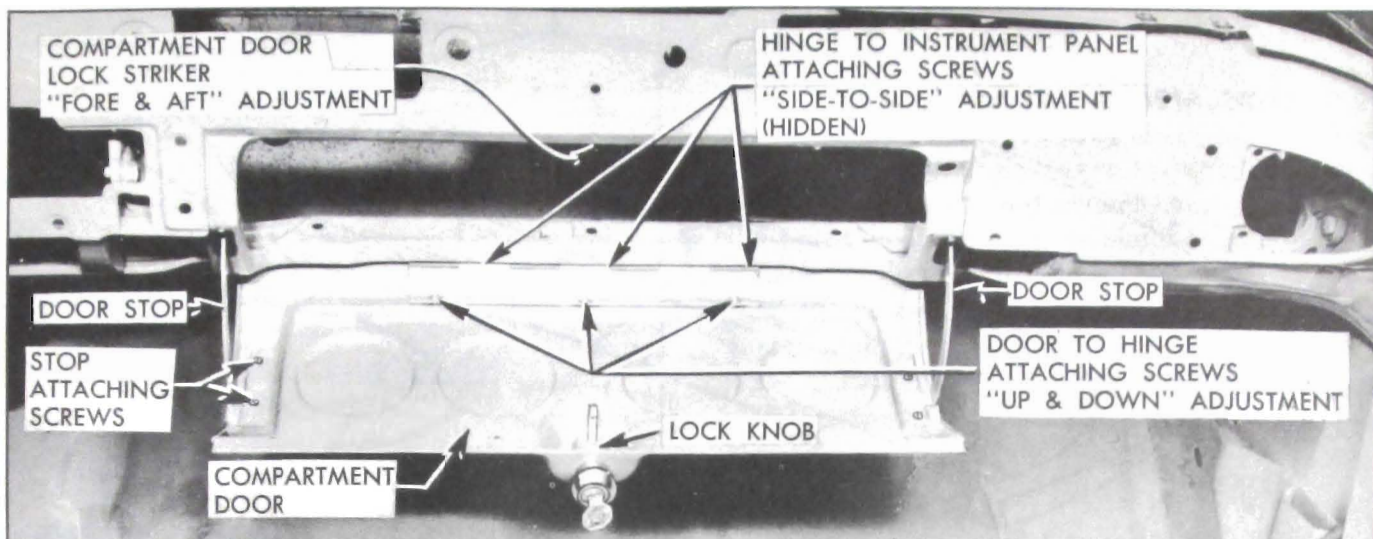

Figure 13-18—Instrument Panel Compartment Door Parts
2. Remove door stop attaching screws on each side of door and disconnect compartment door stops. See Figure 13-18.
3. Remove hinge to door attaching screws and remove door. See Figure 13-18.
1. The screw holes in the compartment door side of the hinge are elongated to permit "up and down" adjustment of the door. See Figure 13-18.
2. The screw holes in the instrument panel side of the hinge are elongated to permit "side-to-side" adjustment of the door. See Figure 13-18.
3. The instrument panel attaching screw holes for the lock striker are elongated to permit "fore and aft" adjustment of the top of the door. See Figure 13-18.